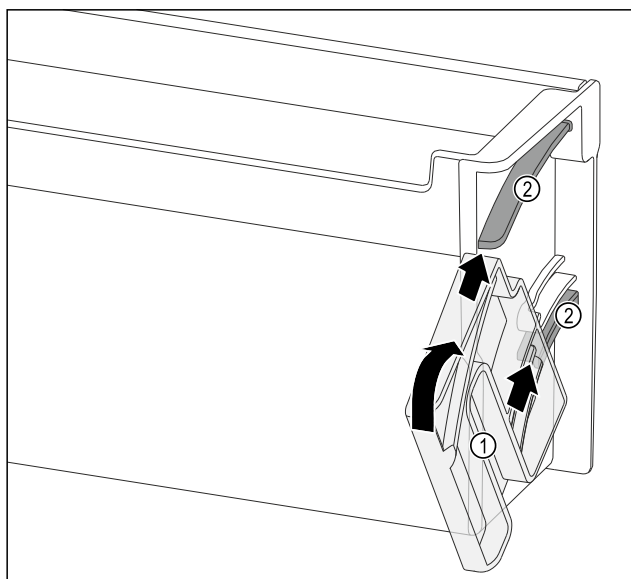

Fig. 153
- Position the swivel unit Fig. 153 (1) so that the recesses are exactly opposite the guide channels Fig. 153 (2) of the door racks.
- Turn the swivel unit Fig. 153 (1) in the specified direction.